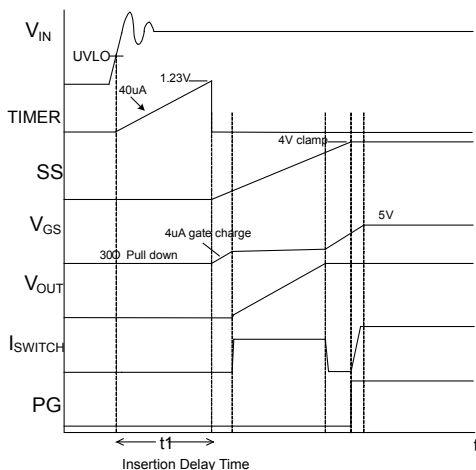

Figure 5—Start-Up Sequence
For hot-swappable applications, the input of the MP5021B can experience a voltage spike or transients during the hot-plug procedure. This spike is caused by the parasitic inductance of the input trace and the input capacitor. In order to stabilize the input voltage, an insertion delay is implemented before the MP5021B main FET is turned on. TIMER charges the external capacitor (C_T) through a 38.5µA constant current source when the input voltage reaches the UVLO threshold (see Figure 5). The insertion delay finishes when the TIMER voltage reaches 1.23V. The capacitance of C_T can be determined using Equation (2):